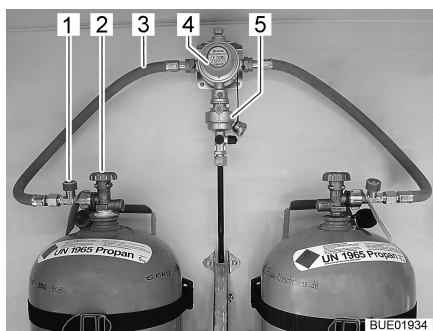
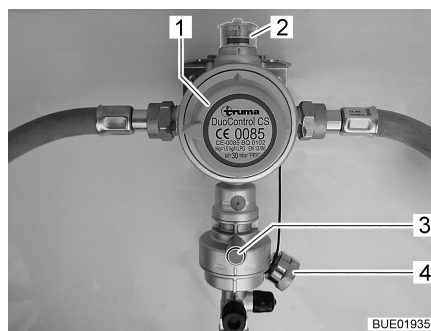
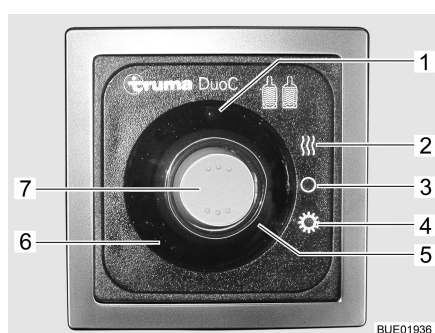

Fig. 39 Gas bottles with DuoControl
Fig. 40 DuoControl regulating system
Fig. 41 DuoControl operating unit
The DuoControl regulating system consists of a reversing valve (Fig. 39,4) and a crash sensor (Fig. 39,5). The DuoControl regulating system is installed between the gas tubes (Fig. 39,3) with hose break guard (Fig. 39,1). The knob (Fig. 40,1) on the reversing valve is used to select which of the gas bottles is to be used as primary bottle and which is to be used as reserve bottle.
The status of the gas supply is indicated in the inspection window (Fig. 40,2):
The operation with only one gas bottle is allowed but in this case the open connection must be closed with a blind cover (Fig. 40,4).
The crash sensor blocks the gas supply in the event of a significant impact (e.g. accident). The crash sensor is put into operation with the green reset button (Fig. 40,3).
The hose break guard (Fig. 39,1) blocks the gas flow if the connected hose breaks. The hose break guard must be activated by pressing the green button.
At the operating unit (Fig. 41), the gas supply via the DuoControl regulating system is switched on and off. The regulator taps (Fig. 39,2) of the gas bottles and the gas isolator taps of the devices must be opened manually.
Summer and winter operation are switched with the rocker switch (Fig. 41,7) on the operating unit.
The two indicator lamps on the operating unit indicate the level of the primary bottle. When the green indicator lamp (Fig. 41,6) is lit, the primary bottle is sufficiently filled. When the red indicator lamp (Fig. 41,5) illuminates, the primary bottle is empty. In this case, the reserve bottle is used for the gas supply.
- Use the knob (Fig. 40,1) on the reversing valve to select the gas bottle which is to be the primary source of gas (primary bottle). Always turn the knob as far as it will go.
- Open regulator taps (Fig. 39,2) on the gas bottles.
- Press the green button of the hose break guard (Fig. 39,1). The green marking is shown in the inspection window (Fig. 40,2).
- Switch on the DuoControl regulating system at the operating unit (Fig. 41). To do so, set the rocker switch (Fig. 41,7) to winter operation (Fig. 41,2) or to summer operation (Fig. 41,4). The yellow defroster indicator lamp (Fig. 41,1) is lit when winter operation is selected.
- Set the rocker switch (Fig. 41,7) to the OFF position (Fig. 41,3). The indicator lamps go out.
- Close regulator taps (Fig. 39,2) on the gas bottles.
If the green indicator lamp (Fig. 41,6) goes out during operation and the red indicator lamp (Fig. 41,5) lights up, the primary bottle is empty and must be changed. The red marking is shown in the inspection window (Fig. 40,2). The reserve bottle continues supplying the gas appliances with gas.
- Turn the knob (Fig. 40,1) a half turn in the direction of the currently used gas bottle. In this way, this gas bottle is the primary bottle now, and the empty gas bottle becomes the reserve bottle. The marking in the inspection window (Fig. 40,2) changes from red to green.
- Close regulator tap (Fig. 39,2) on the empty gas bottle. Pay attention to the direction of the arrow.
- Press the green button of the hose break guard (Fig. 39,1).